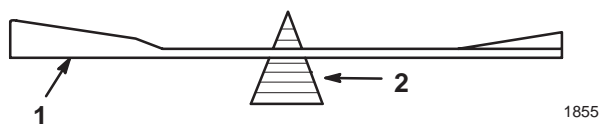

Figure 27
2. Check the balance of the blade by putting it on a blade balancer (Fig. 27). If the blade stays in a horizontal position, the blade is balanced and can be used. If the blade is not balanced, file some metal off of the back side of the blade. Repeat this procedure until the blade is balanced.